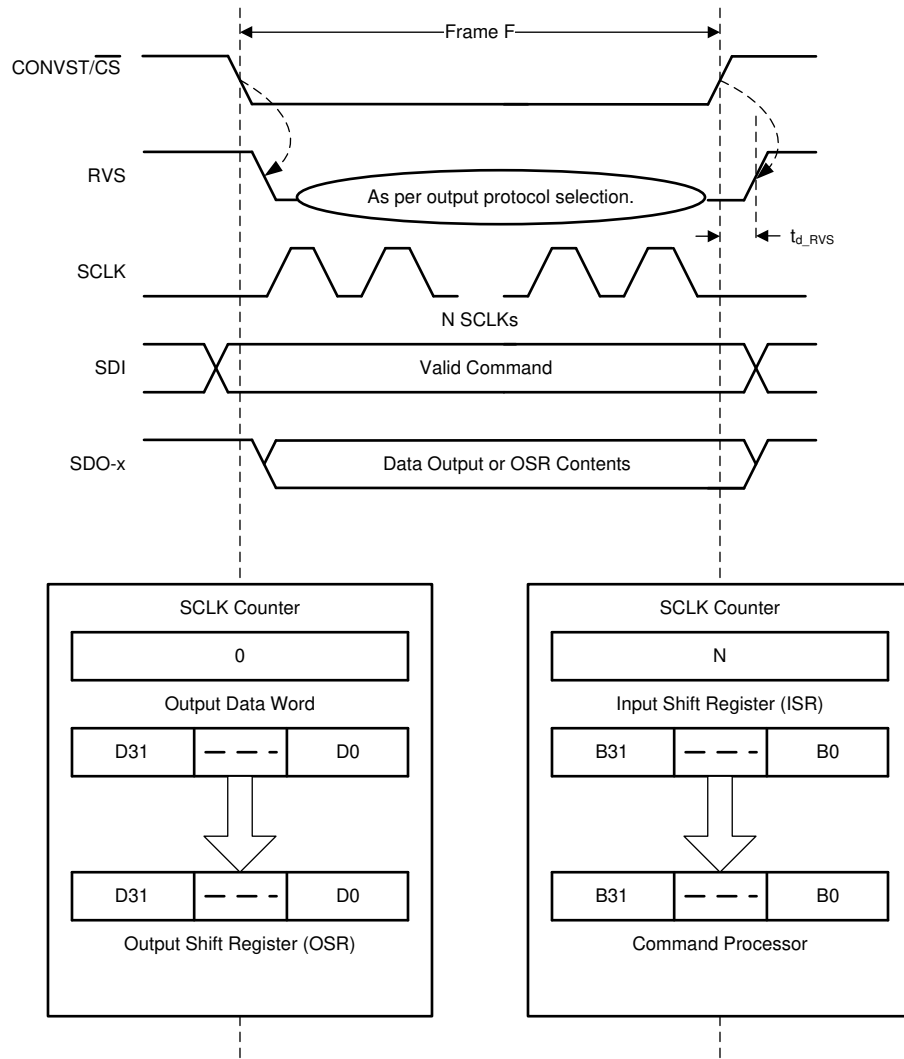

图 7-25. Data Transfer Frame
A data transfer frame between the device and the host controller begins at the falling edge of the CONVST/ $\overline{\text{CS}}$  pin and ends when the device starts conversion at the subsequent rising edge. The host controller can initiate a data transfer frame by bringing the CONVST/ $\overline{\text{CS}}$  signal low (as shown in 图 7-25) after the end of the CONV phase, as described in the CONV State section.
- The device takes control of the data bus. As illustrated in Figure 7-25, the contents of the output data word are loaded into the 32-bit output shift register (OSR).
- As illustrated in Figure 7-25, the contents of the input shift register are transferred to the command processor for decoding and further action.